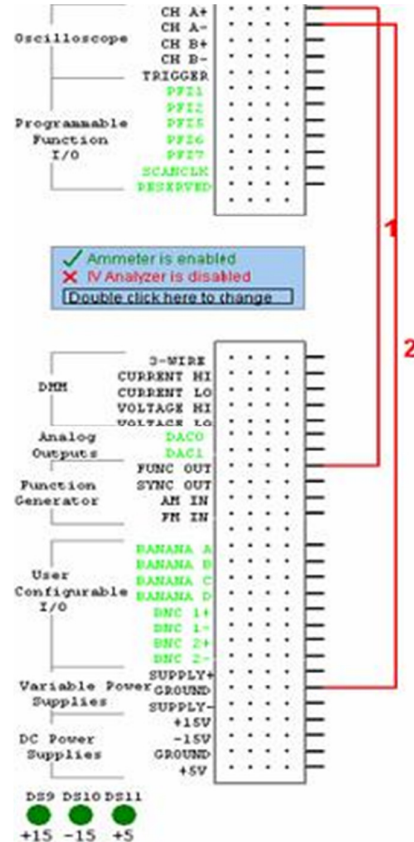

Figure 4
Construct the circuit as shown in **Figure 4** by performing the following steps:
- Complete the table below figure 4.
Use the same circuit as in **figure 4**